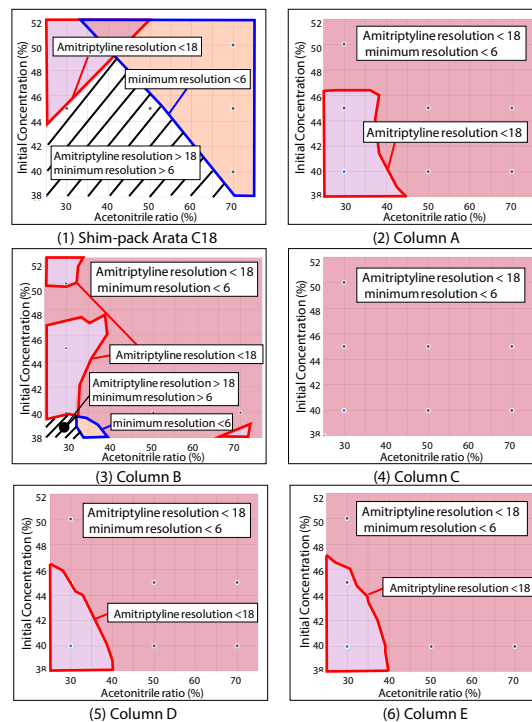

Fig. 4 Overlay of Design Spaces
LabSolutions MD can simplify the search for optimum analysis condition by overlaying design spaces. Fig. 4 shows the area of analysis condition that meets both minimum resolution ≥ 6 and resolution for amitriptyline ≥ 18 for each column. In the case of (1) Shim-pack Arata C18, the region enclosed by the blue line in the figure is the region where minimum resolution < 6 and the region enclosed by the red line is the region where resolution for amitriptyline is < 18 , and the remaining region (shown by the black hatching) is the region of conditions that satisfies both criteria. Among the six brands of columns, the results show that Shim-pack Arata C18 has the largest region that satisfies both criteria. As shown here, overlaying design spaces enables a quick and simple search for the region that satisfies the criteria of resolution set freely for multiple peaks.